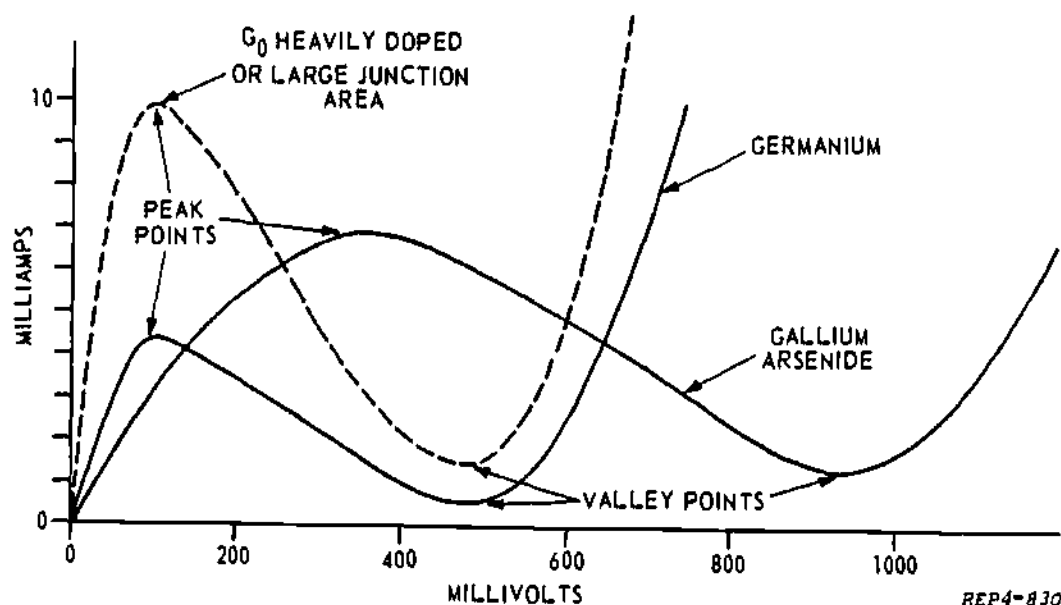

Figure 4-17. Comparison of Volt Ampere Curves for Germanium and Gallium Arsenide Tunnel Diodes
4-49. As forward bias is increased beyond point (3), current again increases. The tunnel diode from here on will act as a conventional diode, (Figure 4-16A). To get some idea of the magnitude of voltage and currents involved, look at Figure 4-17. Germanium tunnel diodes reach their first peak at about 0.1 volts. The total negative resistance region covers approximately 400 mv, with a power level of 10^{-6} to 10^{-3} watts.